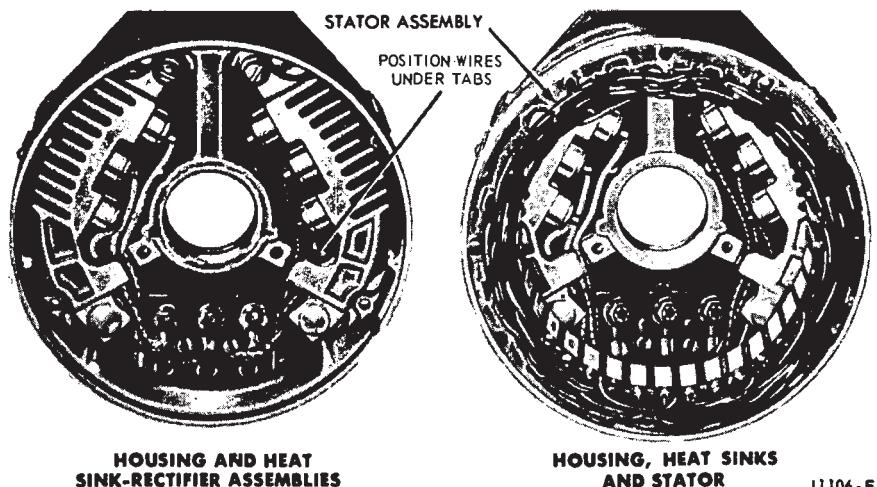

FIG. 5—Rear Housing, Rectifier and Stator Assembly
4. Install the stator insulator. Put the rectifier insulators in position. Place the rectifier assemblies in the housing and install the mounting screws and terminals. Make certain that the rectifier assemblies are insulated from the end frame. Position the three rectifier terminals to the terminal studs. Position the wires under the tabs extending from each heat sink to prevent interference with the rotor (Fig. 5).
5. Place the stator in position (Fig. 5), and line up the housing through-bolt holes to match those in the stator. Position the three stator terminals over the three rectifier terminals, and install the terminal nuts (Fig. 5).